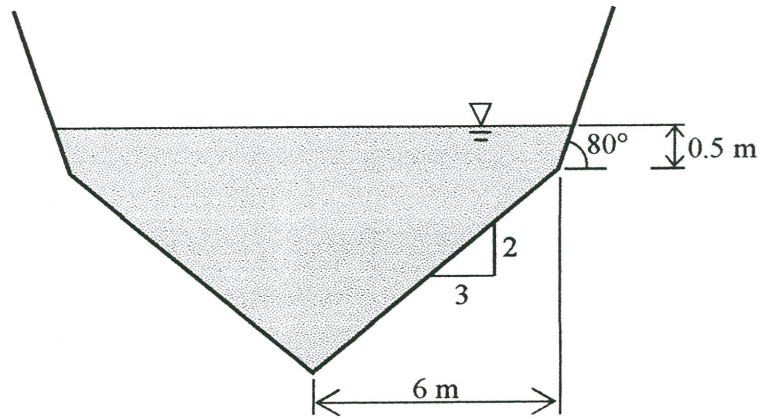

FIGURE Q1(d)
- (d) **FIGURE Q1(d)** shows an open channel flow with discharge of $21 \text{ m}^3/\text{s}$. Given that the kinematic viscosity is $1.004 \times 10^{-6} \text{ m}^2/\text{s}$, find the state of flow based on :